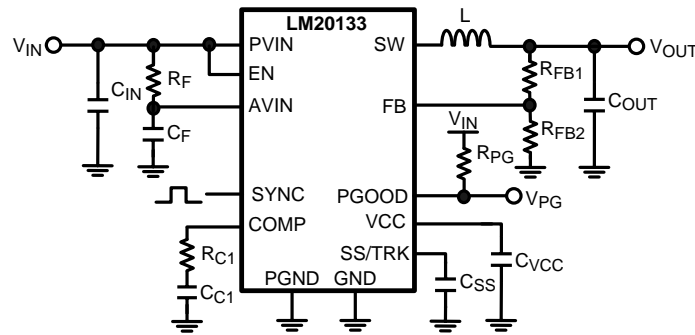

Figure 30. Typical Application Circuit
This section walks the designer through the steps necessary to select the external components to build a fully functional power supply. As with any DC-DC converter numerous trade-offs are possible to optimize the design for efficiency, size, or performance. These will be taken into account and highlighted throughout this discussion. To facilitate component selection discussions the circuit shown in Figure 30 below may be used as a reference. Unless otherwise indicated all formulas assume units of amps (A) for current, farads (F) for capacitance, henries (H) for inductance and volts (V) for voltages.
To prevent high frequency noise spikes from disturbing the sensitive analog circuitry connected to the AVIN and AGND pins, a high frequency RC filter is required between PVIN and AVIN. These components are shown in Figure 30 as C_F and R_F . The required value for R_F is 1Ω . C_F must be used. Recommended value of C_F is $1.0\mu\text{F}$. The filter capacitor, C_F should be placed as close to the IC as possible with a direct connection from AVIN to AGND. A good quality X5R or X7R ceramic capacitor should be used for C_F .